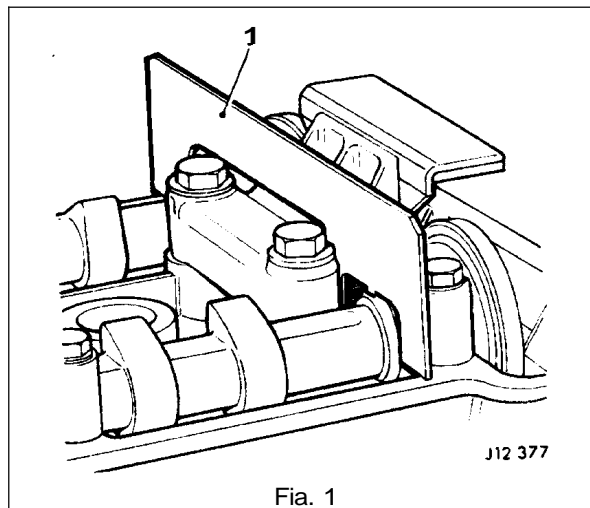

Fig. 1
- Rotate the engine and set No. 1 cylinder at TDC using Service Tool 18G 1433 (1 Fig. 1).